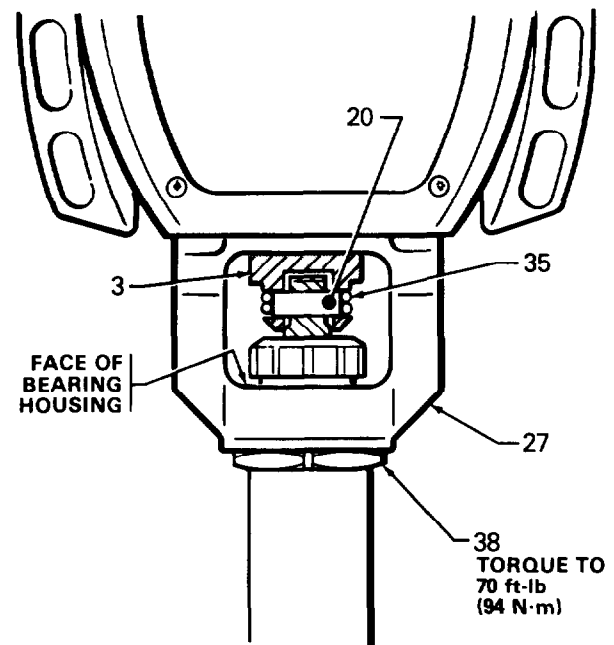

Fig 13
Be sure the retaining spring (35) is firmly in the groove of the connecting rod, *all the way around*, to prevent it from working loose due to vibration. See Fig 13.